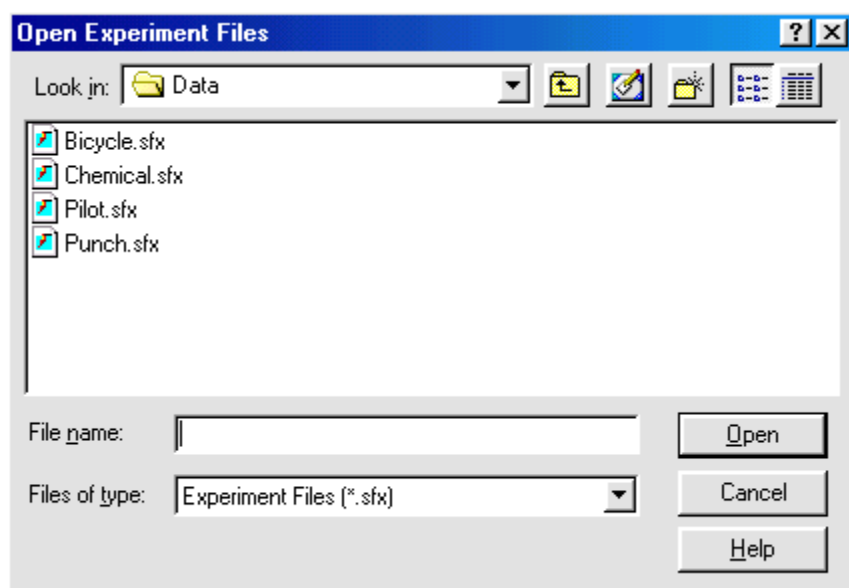

Figure 1-3. Open Design Dialog Box
1. Choose SPECIAL... EXPERIMENTAL DESIGN... OPEN DESIGN... from the Menu bar to display the Open Design dialog box shown in Figure 1-3.